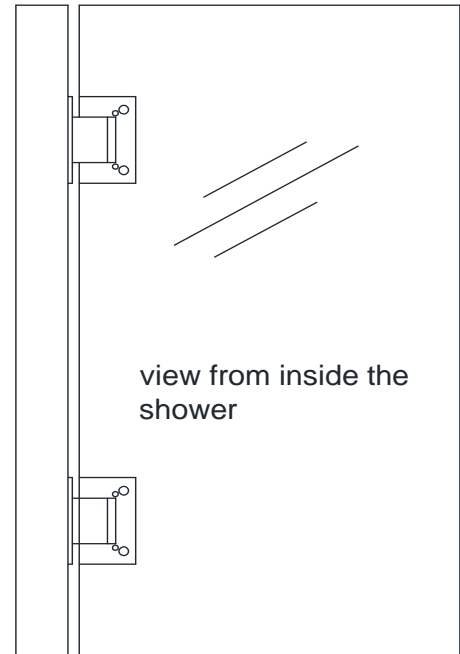

Figure 5a
**4a.** Make sure the door glass is plumb and the edge of the hinge is installed flush with the glass edge. Center the hinge in the glass notch and tighten the faceplate screws (Figure 5a). Be careful not to scratch the finished surfaces of the hinge during installation.